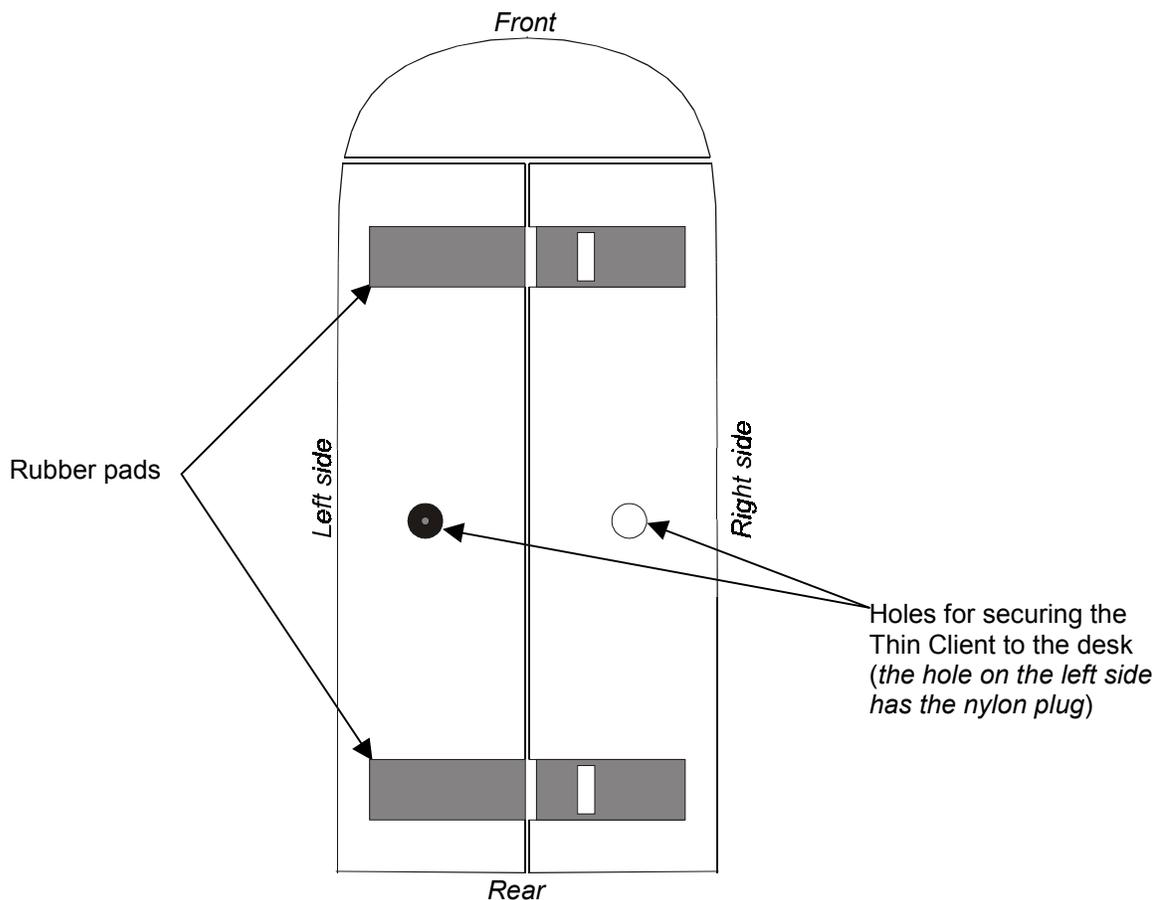

Figure 7: View of the base of Winlinx / Netica
- The base (see Figure 7) of the product has two tapped-holes for securing the unit. One of the holes has a Nylon plug to lock the metal plate inside the unit. Lift the unit, hold it upright, pull out the Nylon plug using a flat-head screwdriver and place the unit upright on a flat surface.